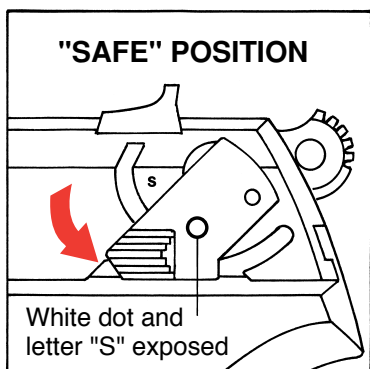

FIGURE 1
To apply the manual safety and decock the pistol, **point the pistol in a safe direction.** Move either the right- or left-hand safety lever fully to the “safe” position. When the safety is moved fully downward to the “safe” position, the white dot is exposed through the hole in the side of the safety and the letter “S” is completely visible. See Figure 1, p. 11. In this position (1) the firing pin is blocked from moving forward, (2) the hammer is blocked from contacting the firing pin, and (3) the entire firing mechanism is completely disengaged from the trigger. At this point, the hammer will fall to its forward (decocked) position.
The pistol can and should be loaded and unloaded with the safety engaged in its “safe” position (lever fully down, white dot and the letter “S” exposed). **The safety should be in its “safe” position at all times except when the user is deliberately positioned to fire at a selected target.** See Figures 1 and 2, below, which illustrate the two positions of the safety.
2. **Move either the right- or left-hand safety lever fully downward to its “safe” position so that the letter “S” and the white dot are fully exposed.** (See Figures 1 and 2 on page 11.)
The trigger is inoperable when the safety is fully engaged in its “safe” position (lever fully down, white dot and letter “S” exposed; see Figure 1 on page 11).
7. If the pistol is not to be fired immediately, the safety should remain in its “safe” position. (See Figure 1, p. 11.)
1. The muzzle of the pistol must be pointing in a safe direction at all times, and fingers should be outside of the trigger guard. Put the safety in its “safe” position (see Figure 1 on page 11) by rotating the safety fully downward until the letter “S” is fully exposed and the white dot shows. The safety can be engaged whether the pistol is cocked or not.